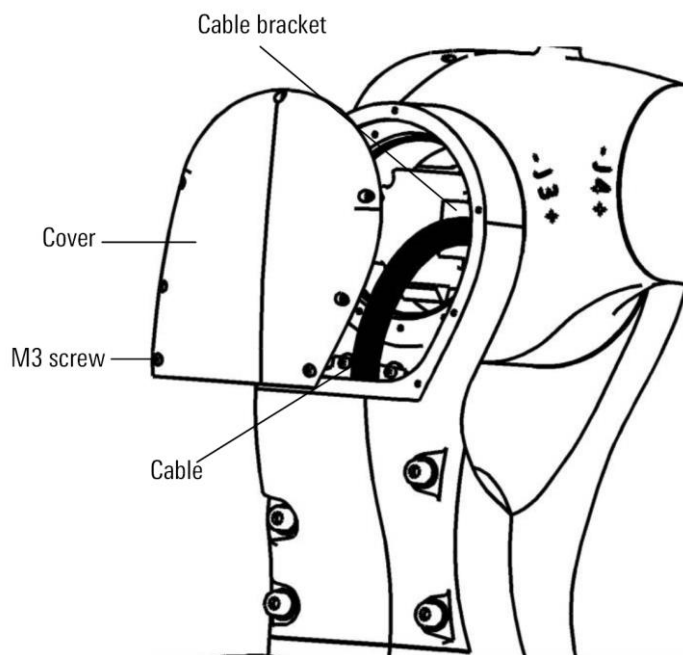

Figure 12-3 Overhaul of internal cable of upper arm
- Step1. Remove the cover, as shown in Figure 12-3.